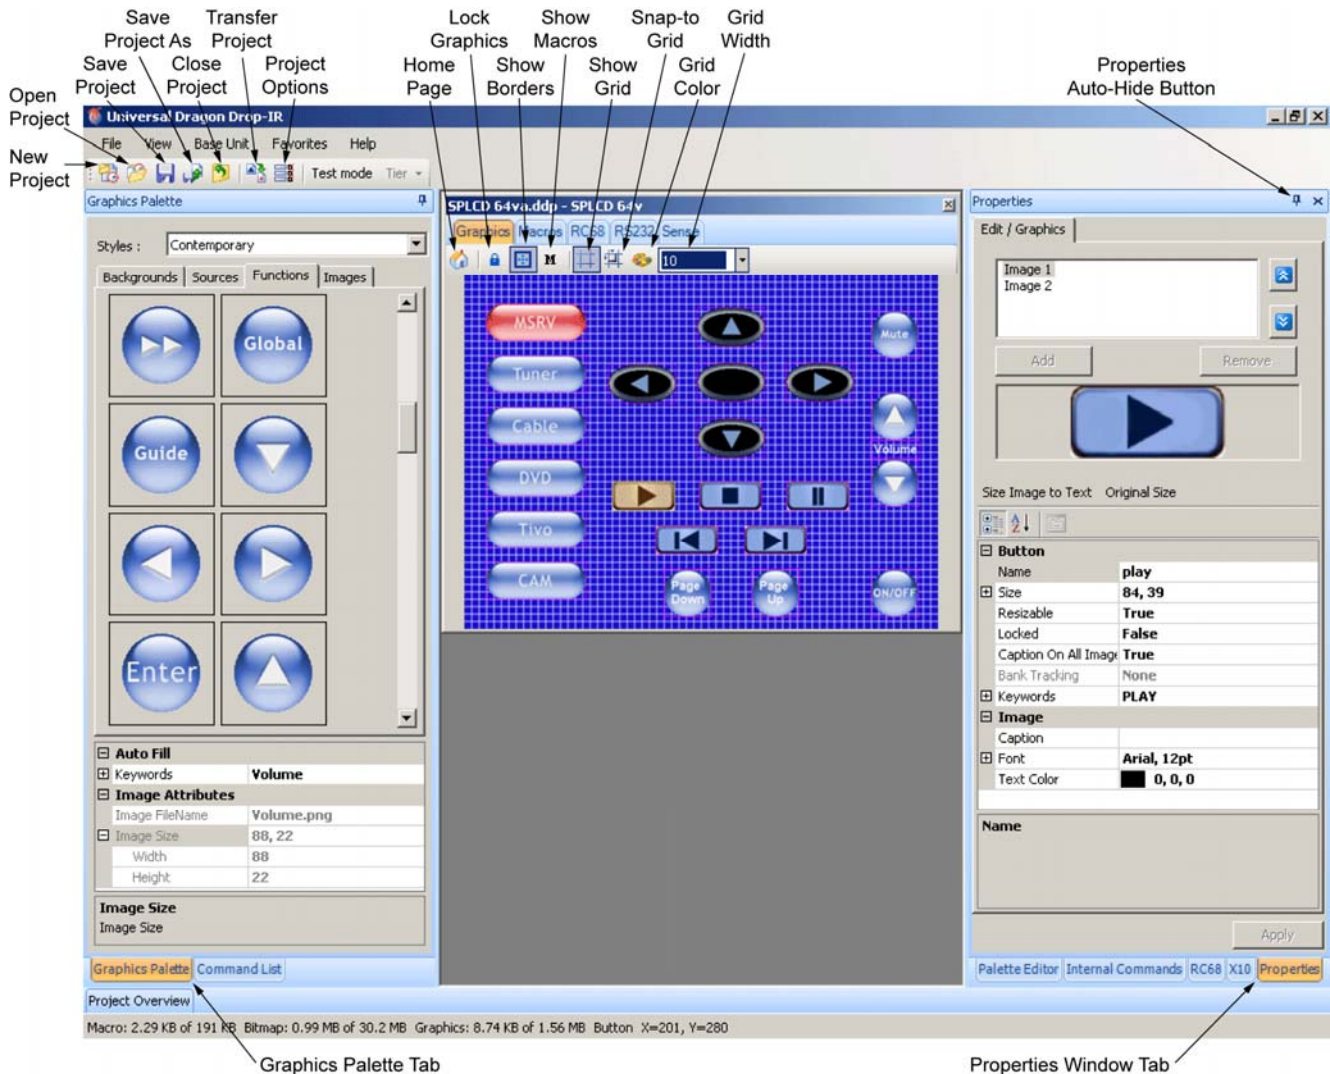

Figure 19 – SPLCD Graphic Page Edit Screen (Populated)
5. Resize the **SPLCD Window** until the full keypad and all tabs are visible (**Figure 19**).